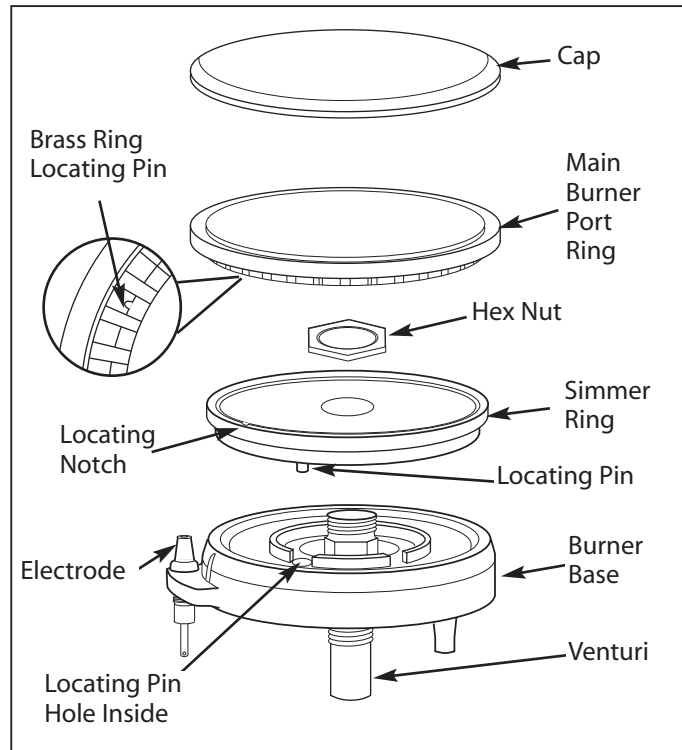

Fig. 14
For proper lighting and performance keep the burners clean. It is necessary to clean the burners if they do not light even though the igniter clicks, if there has been a severe boil over, or when the flame does not burn blue. Be certain all burner knobs are in the off position before attempting to clean the burners. The burners have been designed for ease in cleaning. When the grates and burners are cool, remove the grate. The burner cap and the brass port ring can easily be lifted off. Wash these parts in hot soapy water, rinse and dry thoroughly. The burner caps are porcelain enamel, follow the directions on the previous page that were given for the burner grates. A bristle brush can be used to clean out the toothed burner ports, if necessary. Disassembly of the simmer ring is not recommended, however, it may become necessary to do so if the ports remain clogged after normal cleaning. If it is necessary to disassemble the simmer ring from the base, remove the hex nut at the top of the simmer ring. Clean the simmer ring with hot soapy water using a soft wire or plastic bristle brush then dry thoroughly. Re-assemble the parts using the hex nut. After cleaning, it is important to make sure the locating pin on the bottom side of the simmer ring is properly aligned with the corresponding hole in the base and that the locating pin (see insert) in the bottom side of the brass port ring is properly aligned with the locating notch on the top side of the simmer ring. Incorrect alignment will produce a potentially dangerous flame and poor burner performance (see fig. 14).
After cleaning, it is important to make sure the locating pin on the bottom side of the simmer ring is properly aligned with the corresponding hole in the base and that the locating pin (see insert) in the bottom side of the brass port ring is properly aligned with the locating notch on the top side of the simmer ring. Incorrect alignment will produce a potentially dangerous flame and poor burner performance (see fig. 14).
- Is the two piece burner put together correctly? (See page 27, fig. 14)
- Is the burner head assembly aligned correctly? (See page 27, fig. 14)